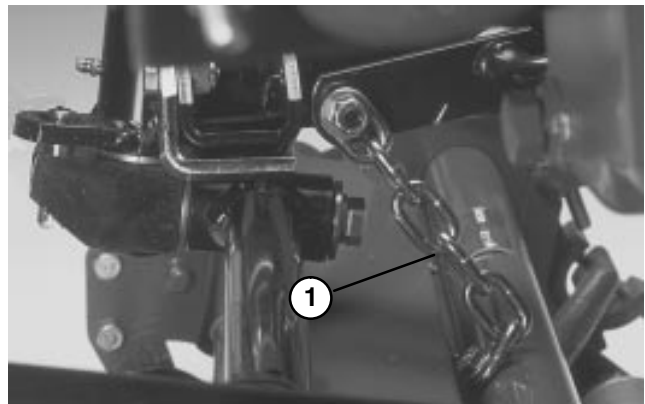

Figure 11
11. Detach chain from lift arm and secure it to cross tube on each rear cutting unit with a capscrew, flatwasher and locknut (Fig. 11).